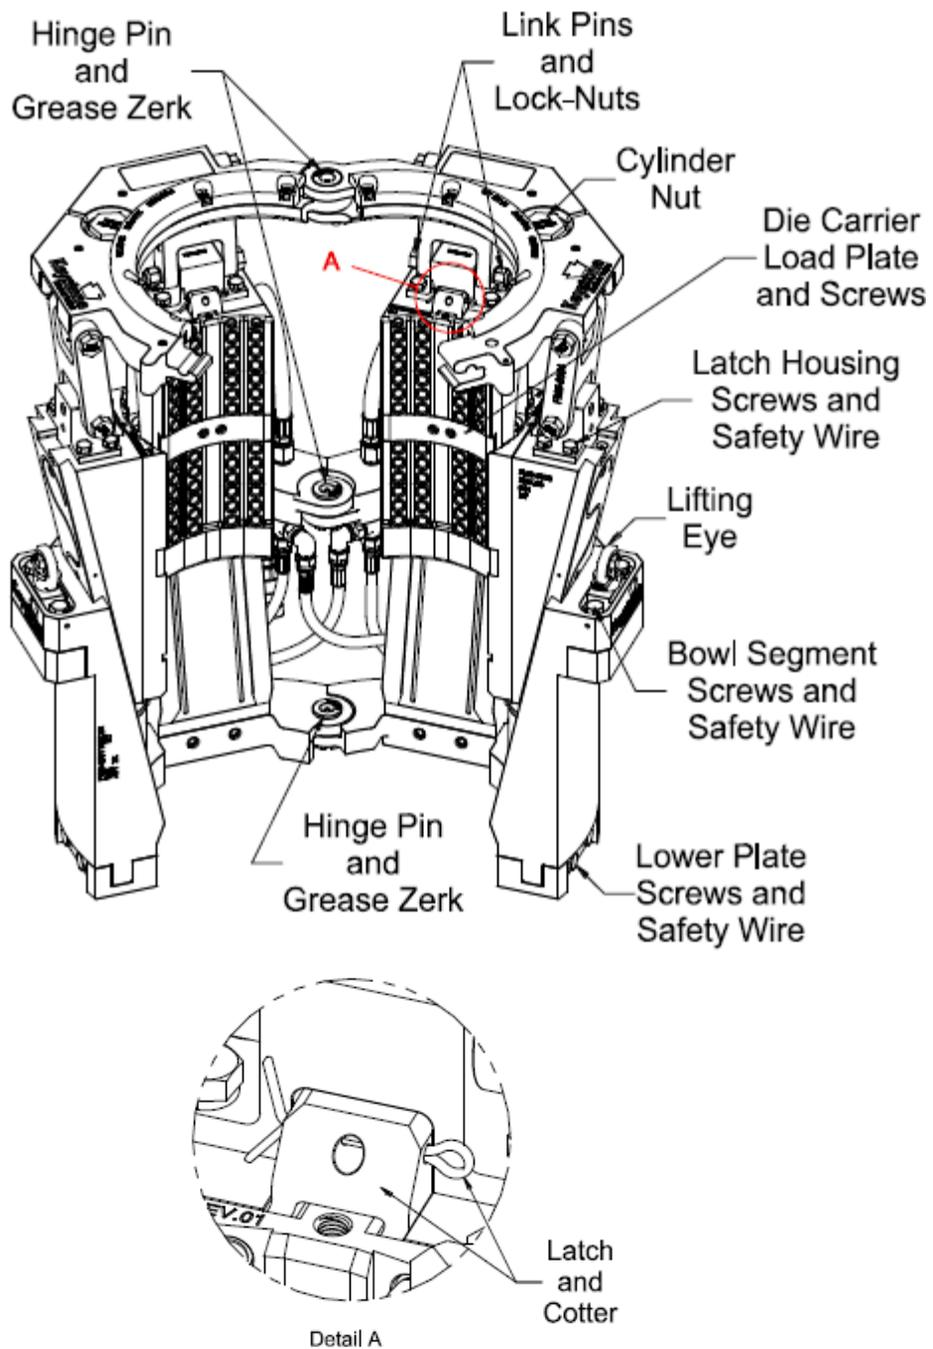

Fig. 30
- Check that the latch has proper spring tension and functions properly without any hesitation or restrictions and verify that the latch is properly securing the (4) insert carriers and (4) cotter pins are installed for secondary retention (see fig. 30)